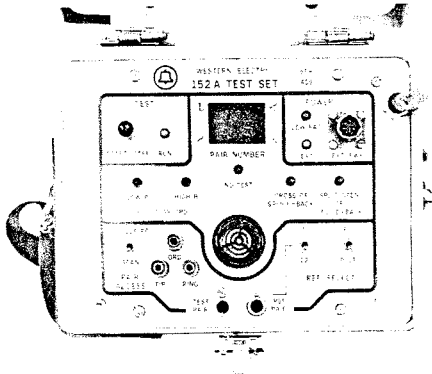

Fig. 42—152A Test Set
5.05 Position the switches as follows (Fig. 42):